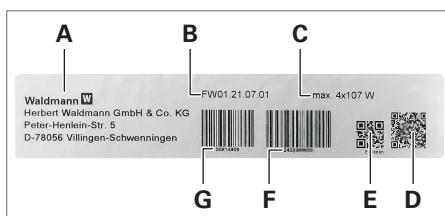

Fig. 28: Rating plate column (example).
- Existing column, as of serial number 2402389800, see Fig. 28.